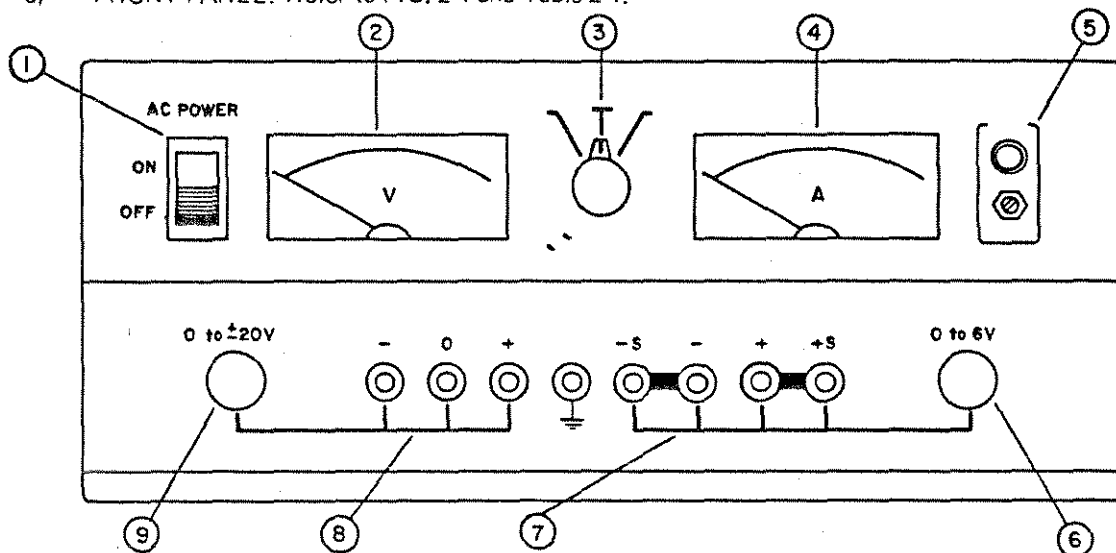
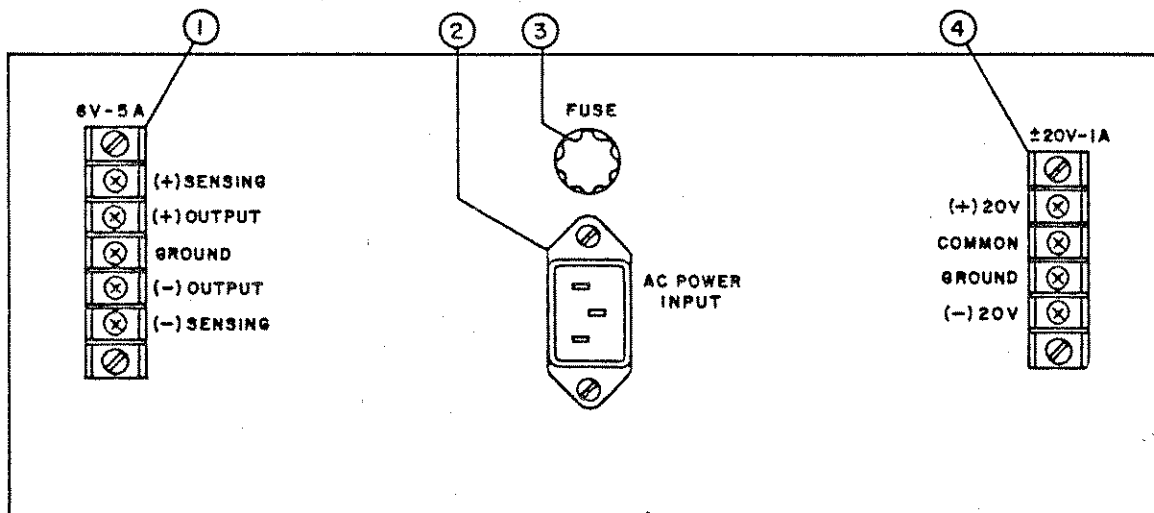
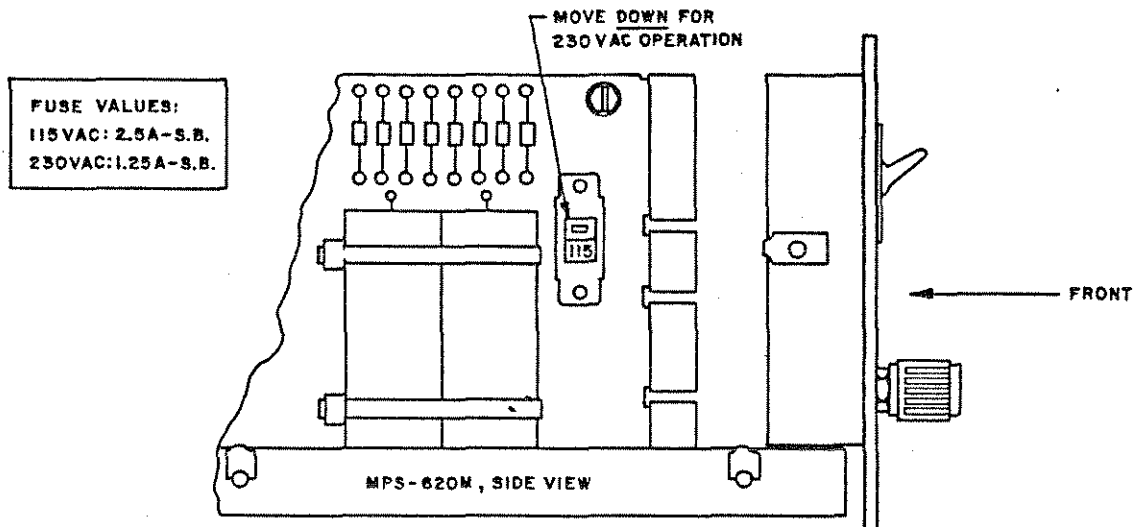

FIG. 2-1 CONTROLS AND TERMINATIONS, MODEL MPS 620M.
FIG. 2-2 REAR TERMINATIONS, MODEL MPS 620M.
FIG. 2-4 LOCATION OF THE A-C SOURCE SELECTOR.
a) FRONT PANEL: Refer to FIG. 2-1 and Table 2-1.
b) REAR: Refer to FIG. 2-2 and Table 2-2.
- 2-5 This power supply is normally delivered for operation on a single phase, 115V a-c nominal a-c power line. For conversion to 230V a-c operation, set the A-C SOURCE SELECTOR (see FIG. 2-4) to the "230" position and change the fuse (see FIG. 2-2) to one half its former rating.
- 2-9 A simple operating check after unpacking and before permanent installation is advisable to ascertain whether the power supply has suffered damage resulting from shipment. Refer to FIG. 2-1 and to FIG. 2-2 for the location of the operating controls and output terminals.